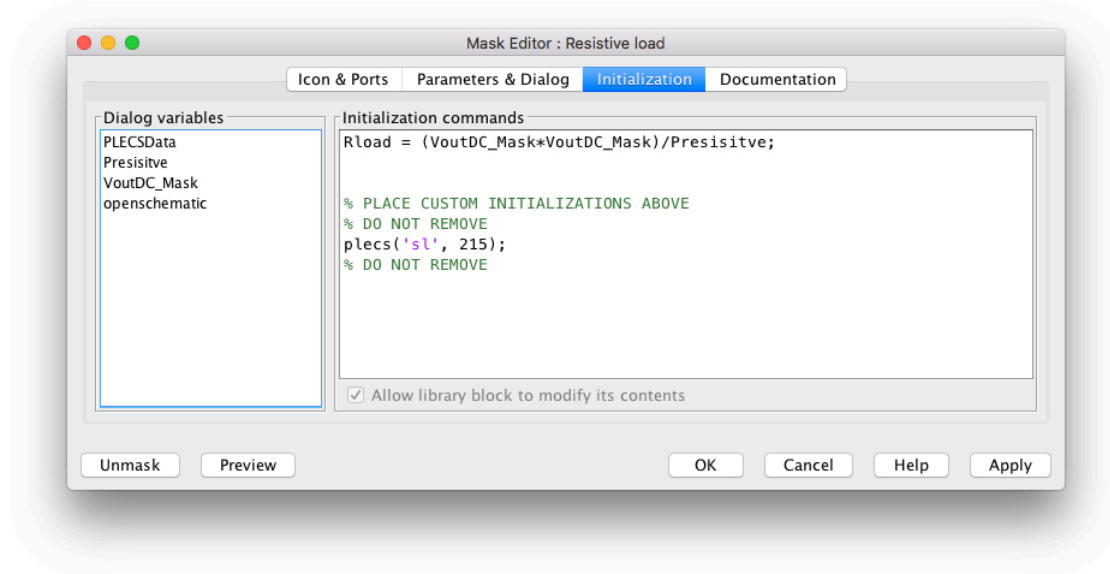

Fig. 6: Initialization commands of the Mask Editor
- **Mask initialization:** Variables in a local mask workspace are only visible to the underlying PLECS Circuit. Select the block to initialize mask variables, then choose **Edit Mask** from the **Edit** menu or from the block's context menu. The initialization commands can be found under the **Initialization** tab, as shown in Fig. 6. In this example the load resistor Rload is calculated in the mask initialization